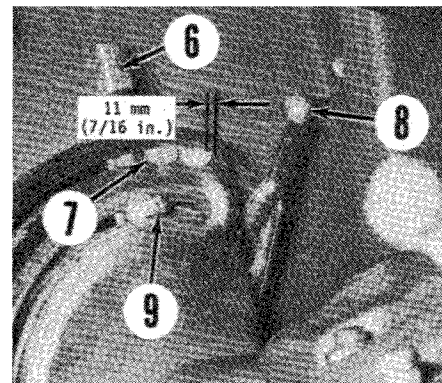

Fig. 177—View of controls for models without pressure control. Refer to text for tests and adjustments.
187. Before beginning system checks, be sure oil level is at full mark on dipstick (5—Fig. 176), and test system only after oil has reached operating temperature of approximately 50°C (120°F). Connect a 35000 kPa (5000 psi) pressure gage (1) at test port (3) in lift cover. Move the response control lever (4) to “FAST” and the inner quadrant lever (6) to “TRANSPORT.” If system is pressure control type, make sure that transport stop (7) is fully rearward directly beneath “PRESSURE” range of inner quadrant. If system is nonpressure type, check that center of rear bolt holding transport stop (7—Fig. 177) is 11 mm (7/16 inch) from rear of quadrant stop. On all models, check to be sure lever friction springs are compressed to 20.6 mm (13/16 inch). This amount of compression should permit levers to slide freely, but should hold position when released.
If nonpressure control style, move inner quadrant lever (6—Fig. 177) fully “UP” in quadrant past the transport